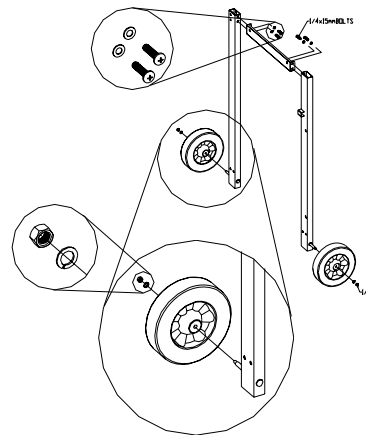

Figure 2
2. Assemble right back cart leg with cart frame beam using (2) 1/4 x 3/5" Phillips head screws with (2) 1/4" lock washers. Repeat the same step for right front cart leg with cart frame beam. Then assemble 2 wheels by using (2) 1/4" hex nuts with (2) 1/4" flat washers. (Fig.2)